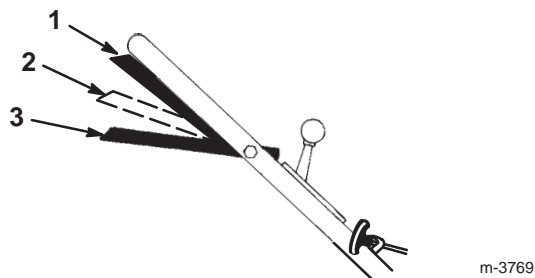

Figure 10
3. Squeeze the control bar against the handle to the **Run/Drive** position (Fig. 10).
**Note:** Do not shift speeds while squeezing the control bar against the handle in the **Run/Drive** position; this can damage the transmission. Move the control bar to the **Run/Shift** position (Fig. 10) when you change the ground speed.